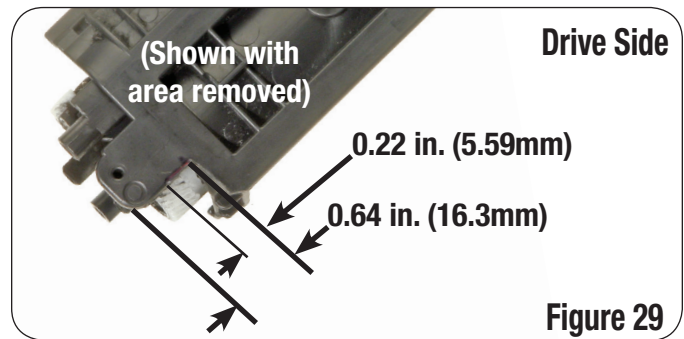

Figure 29
31. On the Gear side of the hopper base, remove an area 0.22 in. (5.59mm) wide (Figure 29).